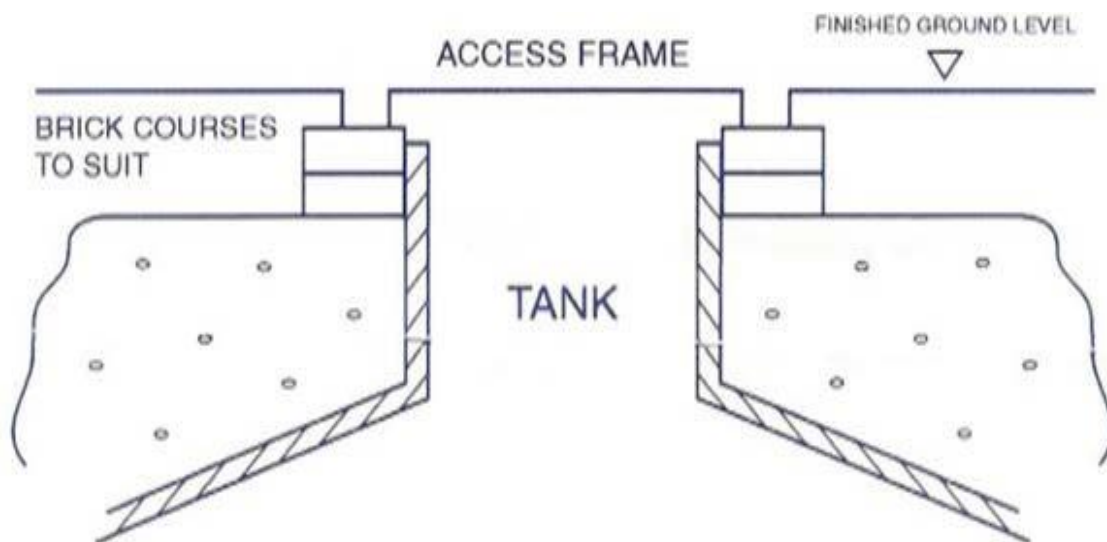

Figure 1
- The access cover/frame would have been supplied unattached to the tank. Set the frame into the concrete cover slab or a brick course (see figure 1).